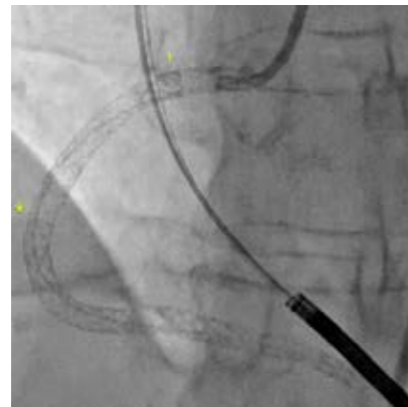

Figure 2: Overlapping stents (+) and stent fracture (\*) under Hi-Def mode.
with or without contrast. In order to determine if there’s evidence of stent fracture, and in fact, based on the fracture pattern, there are different stages of the fracture that can be determined by this fluoroscopic imaging.” Dr. Bertolet explained while pointing on the Figure 2 “In this case, when I go into the hi-def mode, I can visualize where we have done the metal bypass, and where there is in-stent restenosis. More importantly, I can actually see almost where these stents overlap under Hi-Def mode and there’s a large area of overlap where
I can’t see the stent struts as well (asterisk in Figure 2). This is suggestive of a Type 1 stent fracture in this particular zone as a cause of the in-stent restenosis in this area, which helped us then determine the method of therapy that I needed to deliver to this area.”
Figure 2: (A) Hi-Def mode reveals a broken wire and under expanded stent from a previous intervention that impedes the guide engagement at RCA ostium. (B) A hydrophilic wire successfully crosses the stent under Hi-def guidance. (C) Standard FPD FOV is switched from Hi-Def FOV once the wire crosses the under expanded stent to continue to intervention.